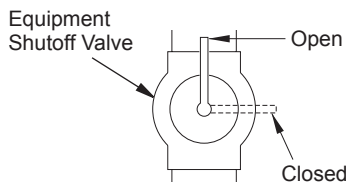

Figure 4 - Equipment Shutoff Valve
1. Close equipment shutoff valve (see Figure 4).